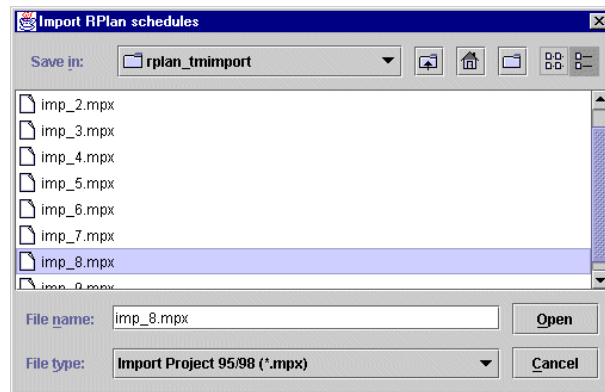

Figure 91: The import dialog box
1. To import the file choose the menu items *File* → *Import* → *RPlan Schedules*. You specify the file to be imported in the *Import* dialog box (Figure 91).